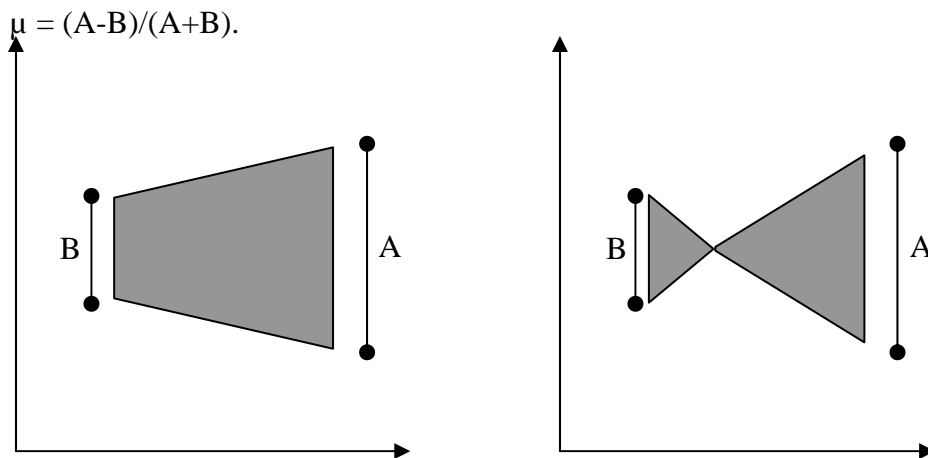

Figure 2: Different Modulation Indices of AM
- Try a variety of different DC offset values on the message signal. For each, calculate the modulation index μ using the formula in the text. To measure μ , place the oscilloscope in XY mode, so the screen looks something like Figure 2.